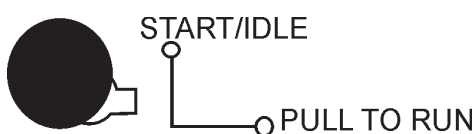

Figure 53. Engine Throttle Control
10. Once the engine has started, let it run for 3-5 minutes, then turn the throttle handle control (Figure 53) to the “**HIGH**” position.